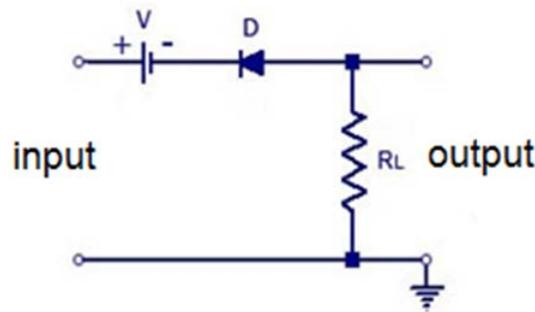
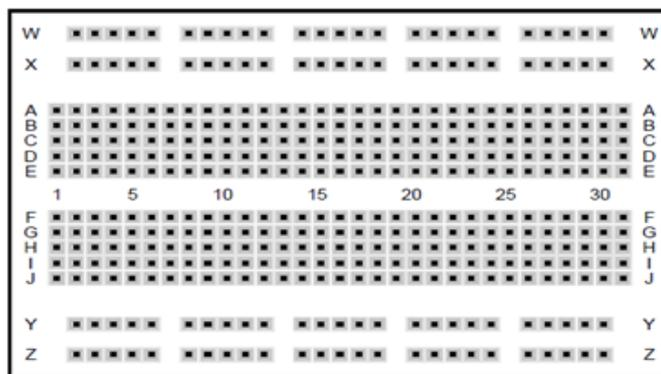

FIGURE 4.7.4
FIGURE 4.7.5
4.7.2 Construct the series biased clipper circuit in FIGURE 4.7.4 below on the breadboard in FIGURE 4.7.5 below. Draw the component layout on the figure.